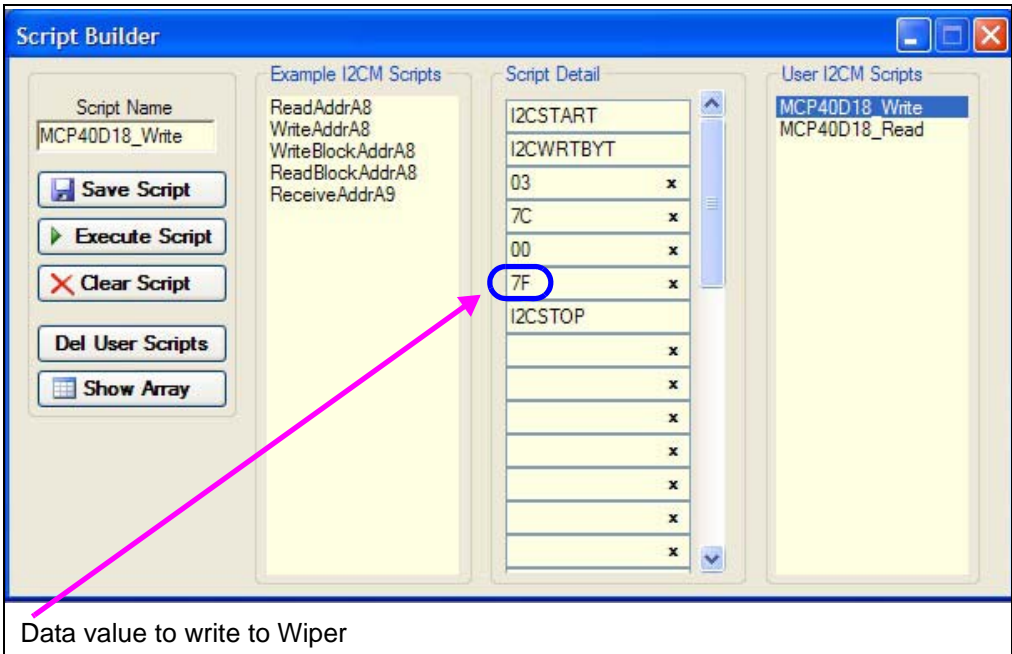

FIGURE 2-13: MCP40D18 Write Script File - Updating Wiper Value.
9. Modify the “Script Detail” so that it is like that shown in Figure 2-13.
13. Select the “MCP40D18_Write” script in the User I2CM Scripts column. It should look like Figure 2-13.
14. Modify the data value to write to the wiper (see Figure 2-13) to 1Fh.